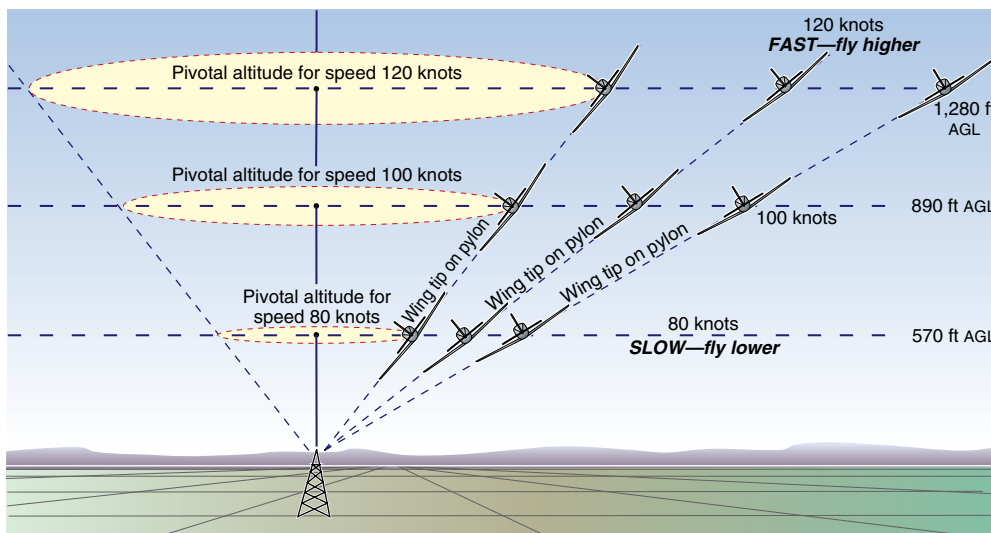

Figure 47-5 Pivotal altitudes AGL for different speeds.
At the higher speed, you can still (1) place the wing tip on the pylon, and (2) center the turn on a point above the pylon, if you fly at a higher altitude and steepen the bank angle. Conversely, at a lower speed, you should fly at a lower altitude and a shallower bank angle. The particular altitude for each speed is known as the *pivotal altitude*. It is only at this vertical distance above the pylon that you can place the wing tip on the pylon and pivot about it as the turn proceeds. See figure 47-5.